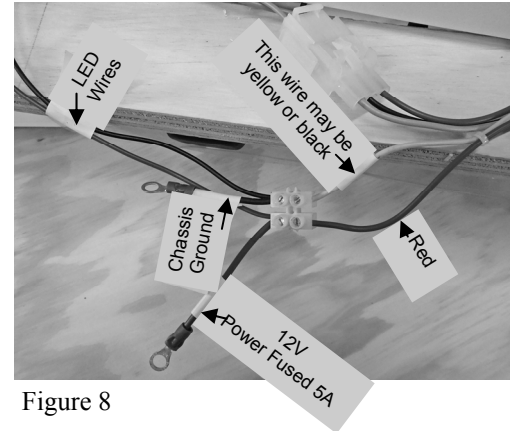

Figure 8
9. **MANUAL HATCH ONLY:** Locate the electrical connection lug as shown in Figure 8. Both the wires from the interior LED trim ring and the incoming power/ground wires connect to the same ports. You will find the LED wires taped inside the trim ring. It is best to twist the paired wires together before insertion into the connection lug. A narrow bladed straight screwdriver is needed to tighten the lugs. Secure the wires with zip ties as needed and push them back under the trim ring. Once everything is secure, check to see that power is supplied to the LED lights. Skip to step 11.
10. **ELECTRICAL HATCH ONLY:** Route the 3 pin electrical connector through the switch plate hole and connect to the matching plug on the hatch. Connect the chassis ground wire and 12V power wire to the lug connector on the switch assembly, as well as the LED wires from the trim ring. Refer to Figure 8. You will find the LED wires taped inside the trim ring. Secure the wires with zip ties as needed and push them back into the trim ring. The switch plate may now be installed. Once everything is secured, test the function of the drive motor and lights.